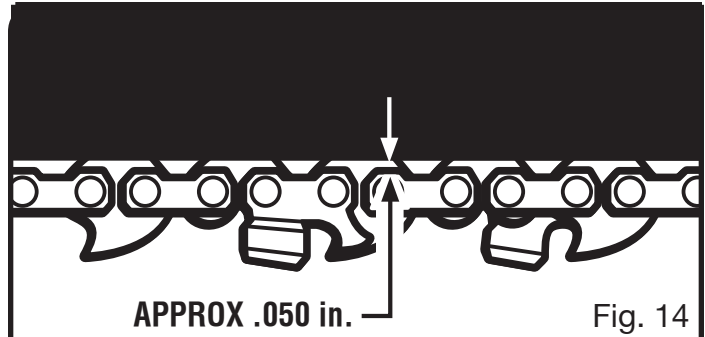

Fig. 14
- During normal operation, the temperature of the chain will increase. The drive links of a correctly tensioned warm chain will hang approximately .050 in. out of the bar groove, as shown in fig. 14.